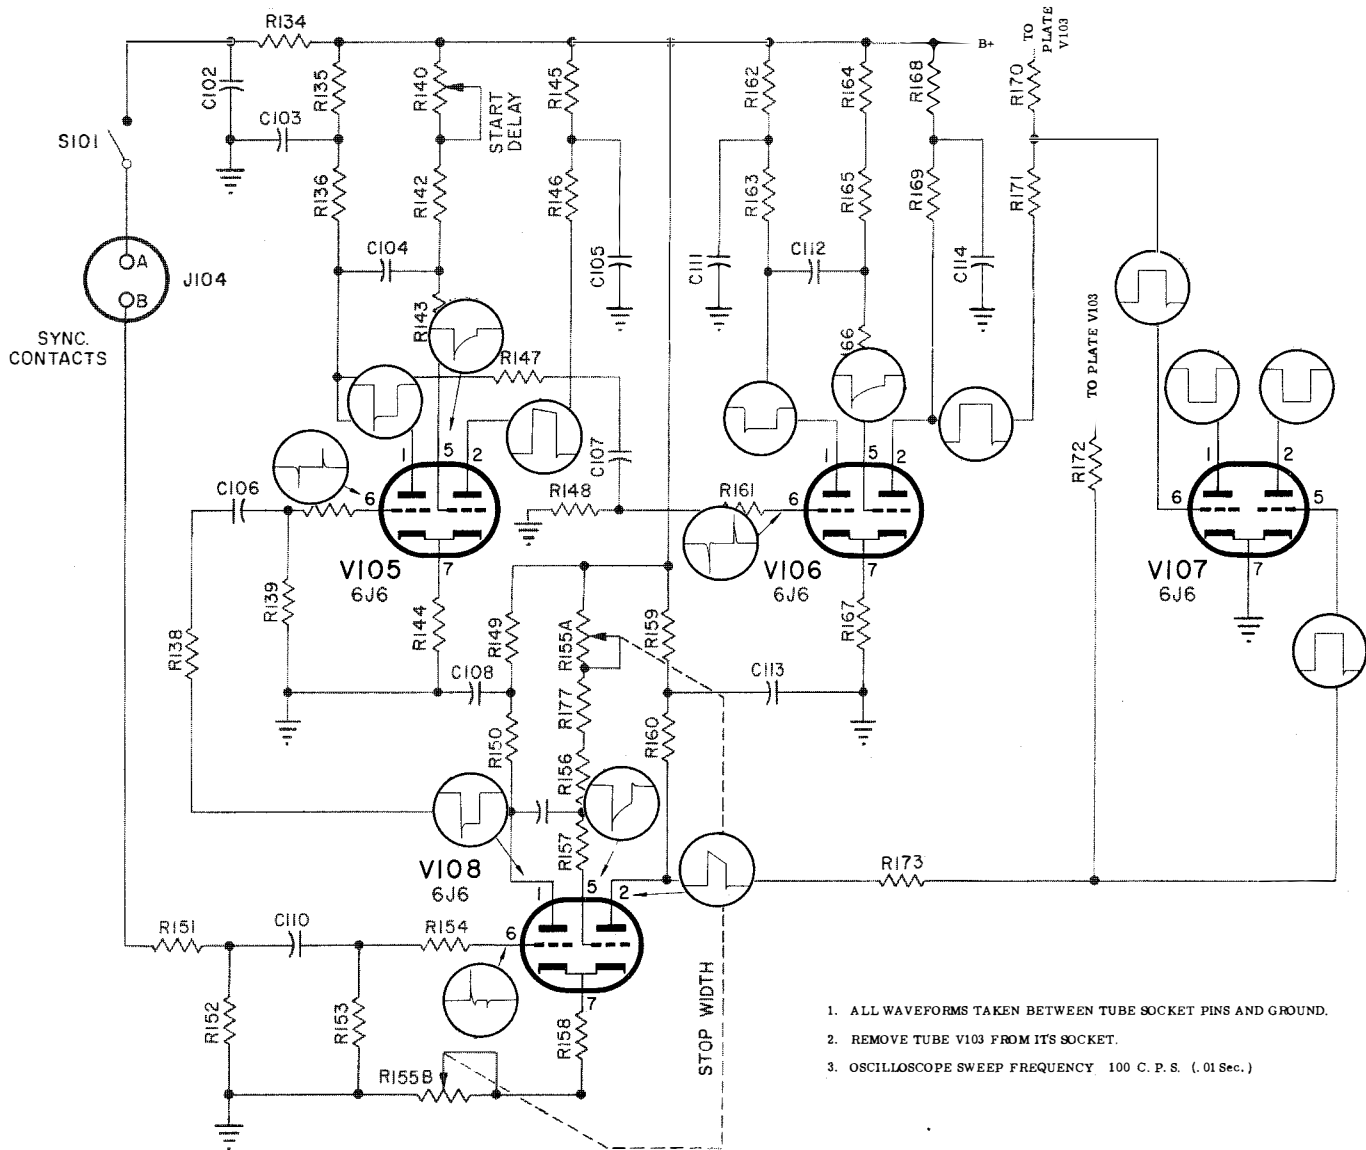

Figure 5-4. Synchronizing Section Oscilloscope Waveforms, Single Cycle
(4) Synchronizing Section. Figure 5-4 illustrates oscilloscope waveforms for each tube element in the synchronizing section. These waveforms represent only a typical cycle of the individual tube, not of the entire section. A theoretical explanation of the operation of this section of the equipment is presented in Section 2.